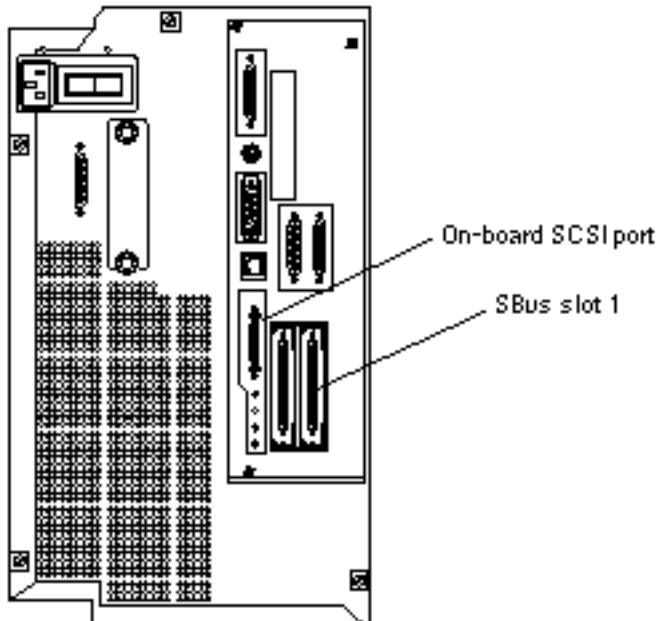

Figure 1-4 Connecting External Peripherals to the Netra 150 Server
- If you are connecting an external peripheral to the Netra Internet version of the Netra 150 server, connect the SCSI cable from the external peripheral to the on-board SCSI port at the rear of the Netra 150 server (Figure 1-4). Note that the internal floppy, tape and CD-ROM drives take SCSI addresses 0, 4 and 6, respectively, so you must verify that none of the drives in the external peripheral use those SCSI addresses.
- If you are connecting an external *tape* enclosure to the Netra NFS version of the Netra 150 server, connect the SCSI cable from the external tape enclosure to the on-board SCSI port at the rear of the Netra 150 server (Figure 1-4).
- If you are connecting an external *disk* enclosure to the Netra NFS version of the Netra 150 server, connect the SCSI cable from the external disk enclosure to the Fast-Wide SCSI card installed in SBus slot 1 at the rear of the Netra 150 server (Figure 1-4). If you do not have a Fast-Wide SCSI card installed in SBus slot 1, follow the instructions in “Installing an SBUS Card” on page 55 to install a Fast-Wide SCSI card in SBus slot 1, then return here. Do *not* connect the external disk enclosure to any SCSI port other than the Fast-Wide SCSI card installed in SBus slot 1.